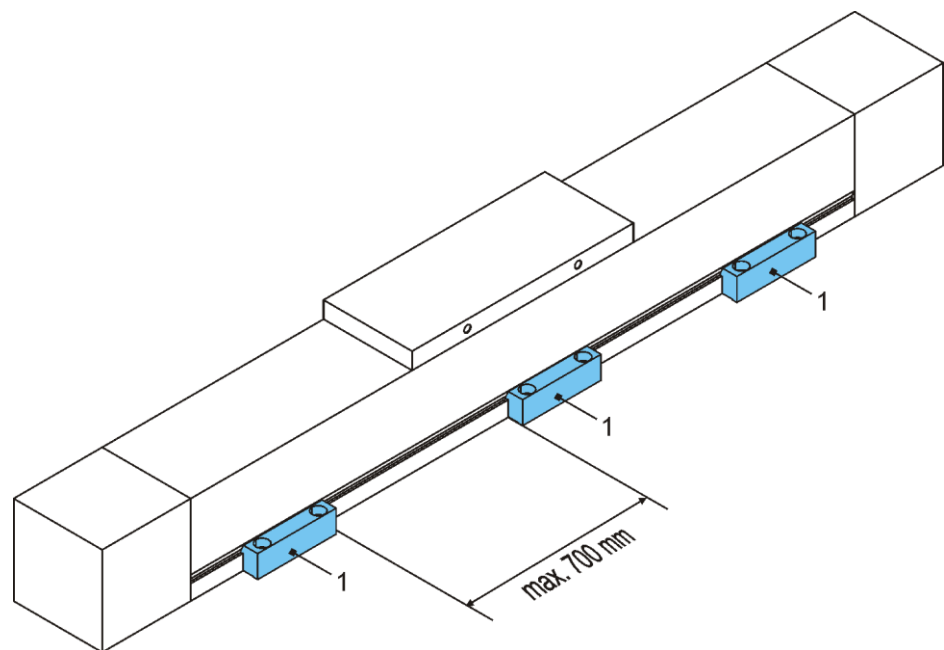

Figure 2: Mounting rails (1)
1. Attach the mounting rails (1) loosely in position (figure 2).
3. Tighten the mounting rails (1)